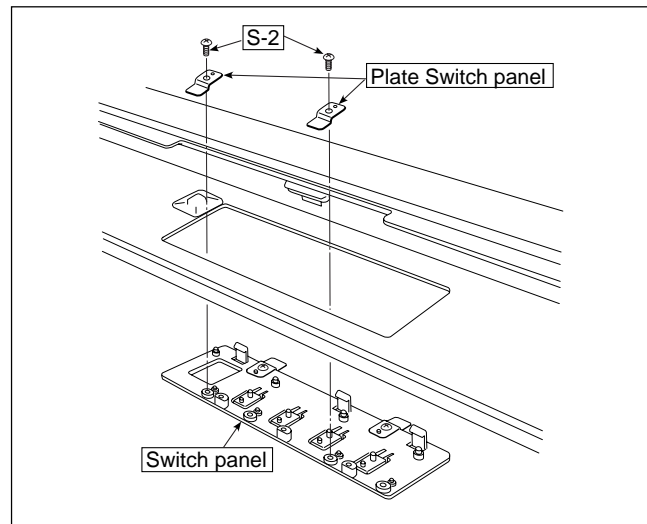

Fig. 8
8) Remove the Plate Switch panel. (See Fig. 8.)